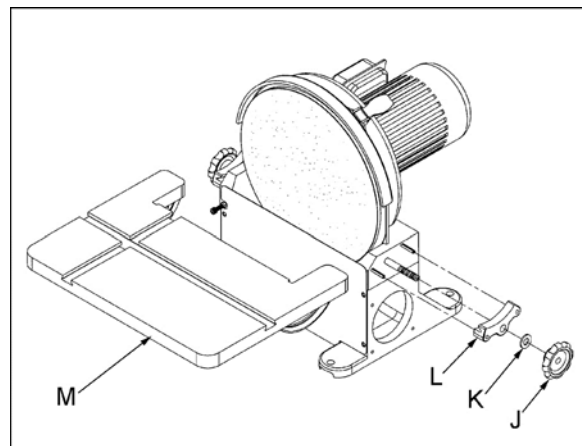

Figure 6
2. Remove the knobs (J, Figure 6), washers (K, Figure 6), and trunnion holders (L, Figure 6) followed by the table assembly (M, Figure 6).